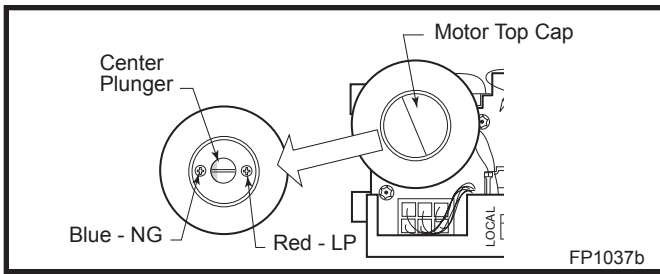

Fig. 68 Depress and turn center plunger.
4. Remove motor top cap. Depress and turn center plunger until arrow points to correct screw. Red for LP and Blue for NG. **NOTE:** Plunger will "snap" into NG position when arrow is close to blue screw. It will not "snap" at LP (Red) position. (Fig. 68)